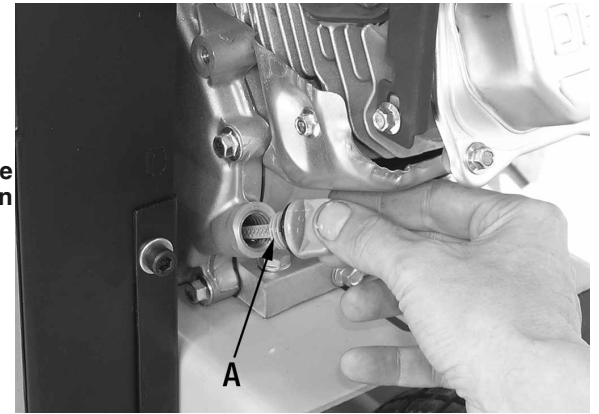

Figure 1
1) Turn the oil gauge dipstick (A) Fig.1 counterclockwise, remove it and clean it with a clean cloth.